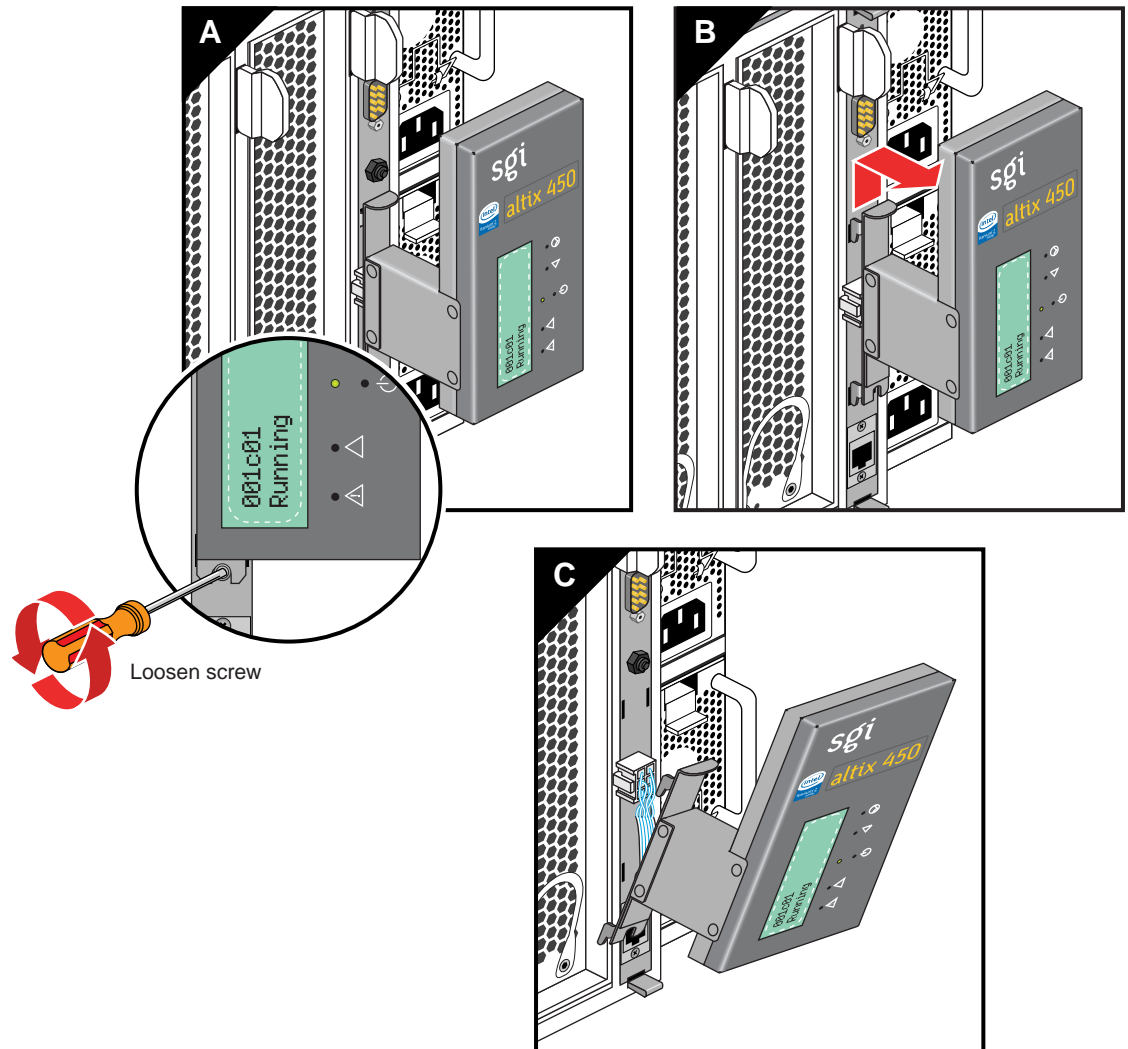

Figure 6-1 Removing the L1 Controller Panel
1. Using a T10 torx driver, loosen the lower screw that holds the display panel to the IRU chassis, see Figure 6-1 on page 111.